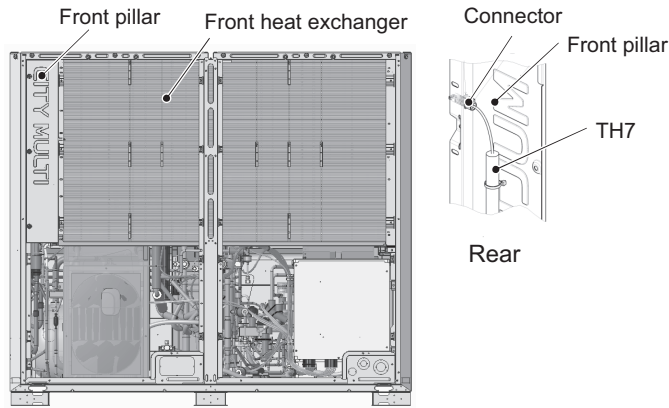

Figure 14
Removal of the front heat exchanger on a standard model (Figure 14)
- (12) Remove the front pillar by unscrewing the 7 screws. (See Figure 14.)
- (13) Disconnect the TH7 sensor holder from the front pillar. (See Figure 14 Rear.)